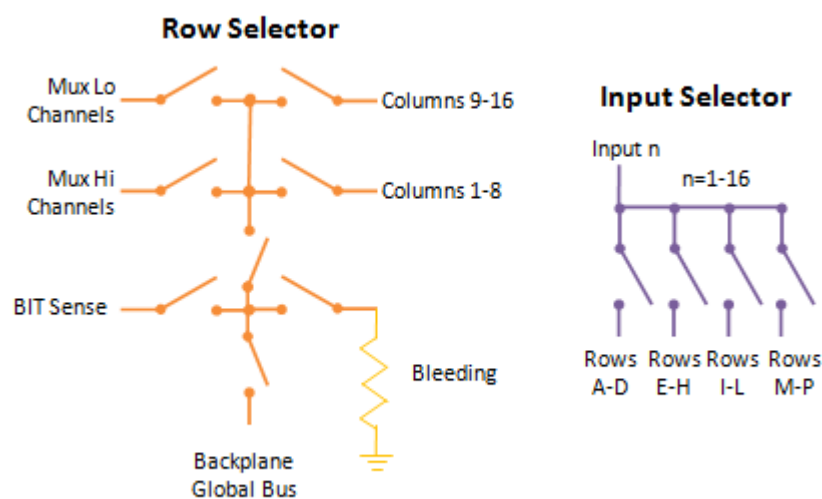

Figure 2-10: Schematic Diagram for Selectors
- The row selector switches a multiplexer group to one of two sets of columns: 1-8 or 9-16. Figure 2-10 includes a logic schematic of a row selector. The row selector can also connect the row to the corresponding global bus line in the backplane.